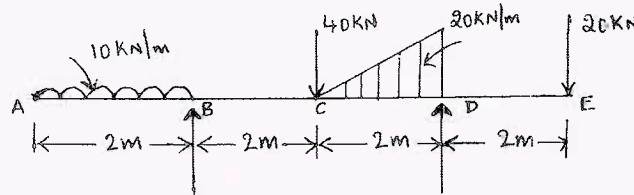

Fig.Q.5(a)
- 5 a. Define point of contraflexure. Draw the SFD and BMD for overhanging beam shown in below Fig.Q.5(a) and locate the point of contraflexure. (15 Marks)